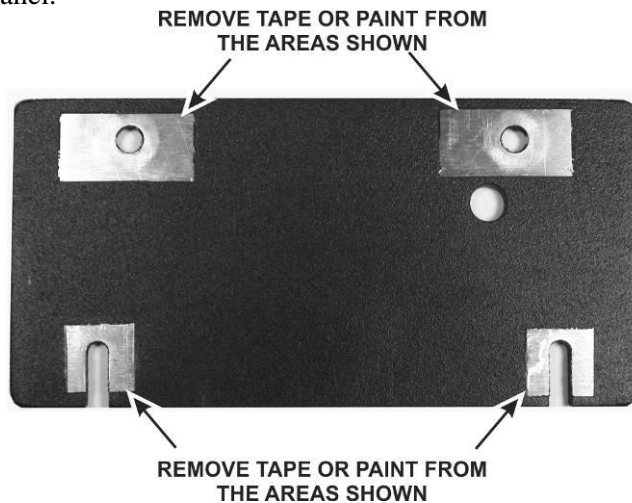

Figure 41. Preparing the Right Side Panel for Mounting.
□ Position the left side panel on the front panel assembly and install the two knurled nuts as shown in Figure 41. The knurled nuts must be installed first to ensure the nuts fit properly into recessed openings and contact the bare metal. Note that the knurled nuts have slots on the side facing away from the panel. You can tighten the nuts with a small screwdriver or other tool pressed gently in the slot. Take care to avoid scratching the paint.
- Unwrap the right side panel and clean it as needed (see Figure 41). The paint is **not** removed from any areas on the outside of this panel.